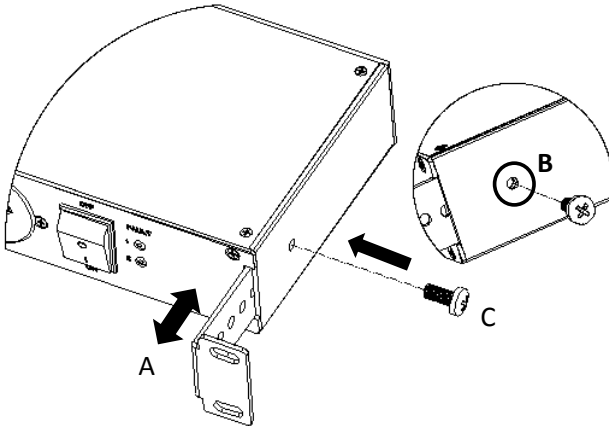

Figure 1
- (A) The bracket can be adjusted to accommodate the depth of the plugs that are connected. The bracket has a stop point limit and can be adjusted from flat, level with the front panel to its maximum point of travel as shown by the arrows in Figure 1 A.
- (B) Align the hole on the side of the unit with the hole of the Rack Mounting Bracket as shown in Figure 1 B.
- (C) Fit the M6 Screw provided in the packet to secure the bracket. The hole in the bracket is pretapped to suit the screw. One screw per bracket. As shown in Figure 1 C